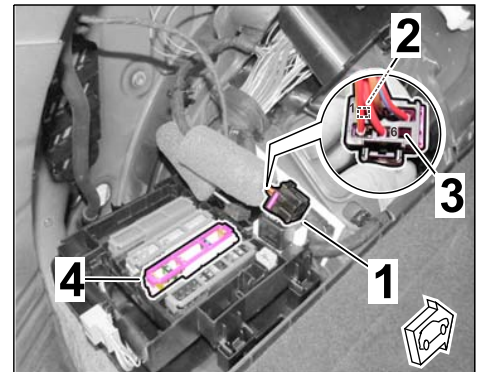

Figure 9
2.3 Check pin assignment in connector B on the vehicle side (6-pin; trailer hitch preparation ⇒ Figure 9).